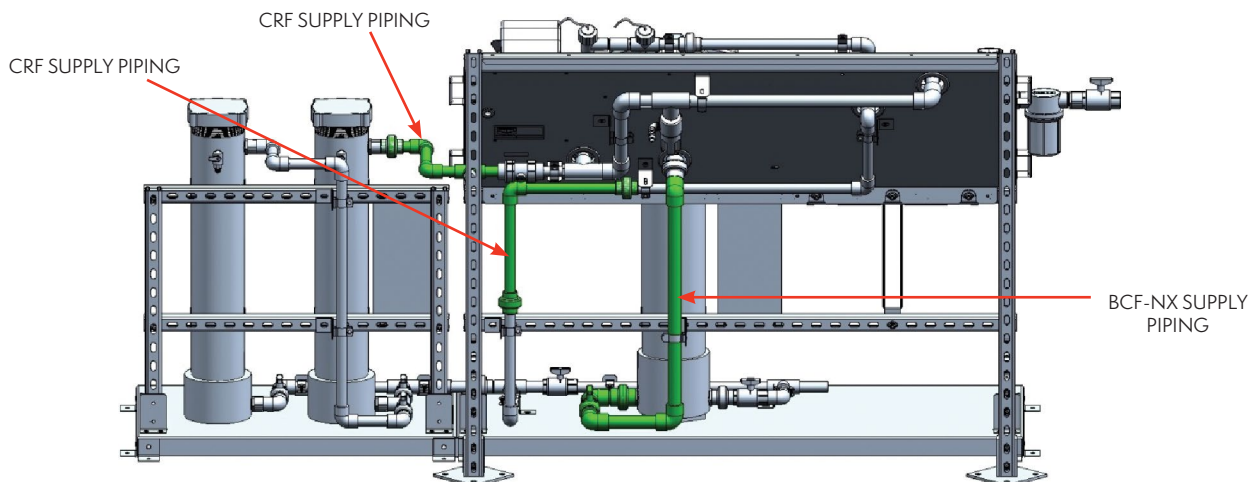
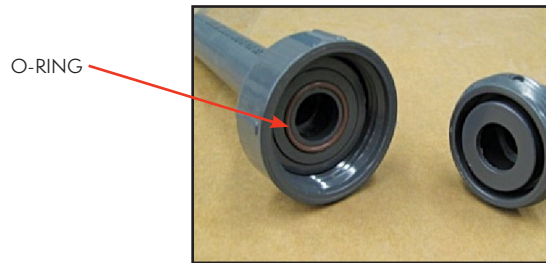

Figure 10 – Rear View of Piping
Figure 12 – Verify Union O-Ring Placement Prior to Making Connections
- 2.12 Complete the piping by installing the six (6) shipped loose sections shown in green. Pipe sections include union fittings for tool-free installation. Verify that O-rings are in place prior to making each connection. O-rings, shown in Figure 12, are required on every union. The Supply Strainer and Isolation Valve section has a threaded connection. Use recommended thread sealant for this installation. See Figures 10, 11 and 12.